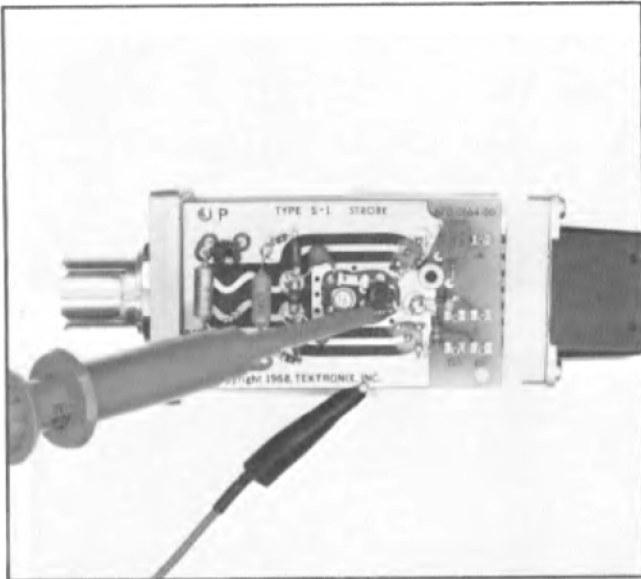
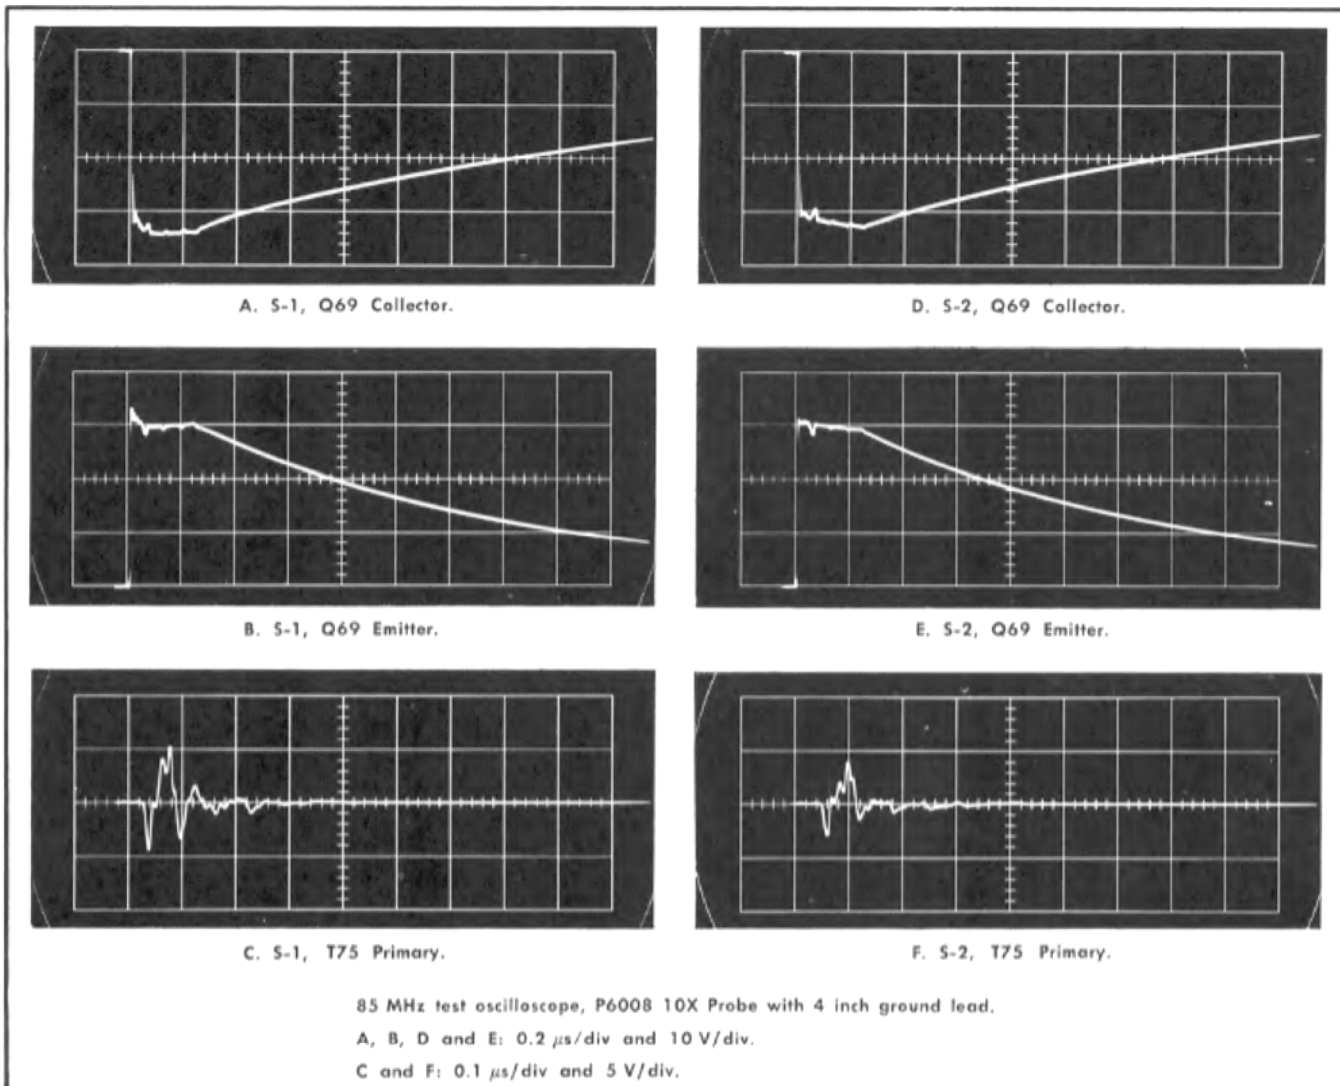

Fig. 5-2. Test oscilloscope 10× probe connected to Q69 emitter.
Fig. 5-3. Checking Avalanche drive and output.
d. Use the test oscilloscope with 10× Probe to check for proper operation of Q69. The probe connections are shown in Fig. 5-2, and the general nature of the signals is shown in Fig. 5-3. Fig. 5-3A and B show the general amplitude for Q69 collector and emitter signals in a Type S-1 Sampling Head. Fig. 5-3D and E show the Q69 signals in a Type S-2 Sampling Head. Fig. 5-3C and F show the S-1 and S-2 typical drive signals at T75 primary (square terminal E) while the head is on the extender cable.
displayed noise, so it is best to have several transistors of this type on hand and grade them for low noise using step 11). If all signals of Fig. 5-3 are present, check the Preamp output (square terminal D). If there is no signal at the Preamp output, check the sampling diodes and Q31 in the following manner.